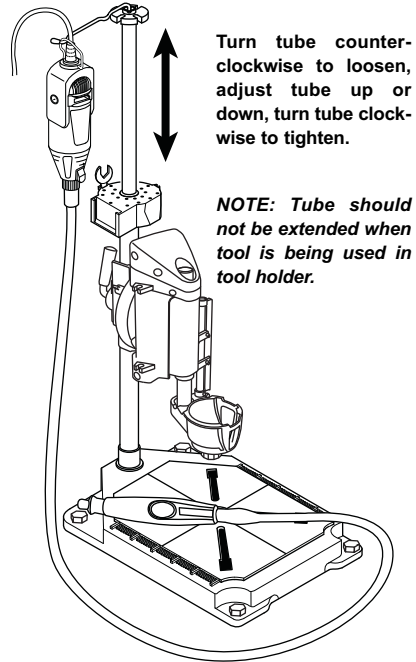

Figure 4. Adjusting Tube Height
8. Twist the top tube counterclockwise to loosen and enable the tube to be adjusted up or down. After desired height is achieved, turn tube clockwise to tighten it (Figure 4).